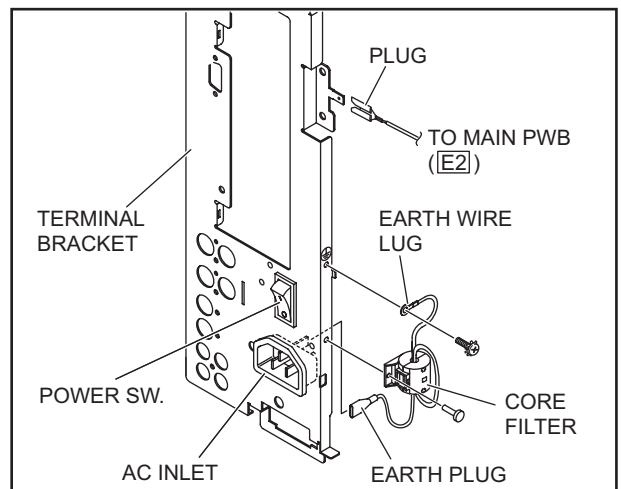

Fig.6
- Before turning on power, make sure that the earth wire properly connected to the TERMINAL BRACKET, which is attached the main power switch and AC inlet. (Fig.6)